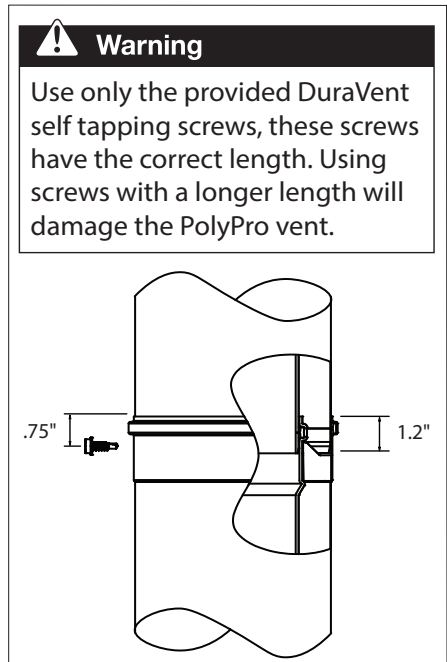

Figure 18
3. Use the two provided self-tapping screws to secure the outer vent sleeves at the joint, 3/4in from the edge and on opposite sides of the pipe. (**Fig.18**)